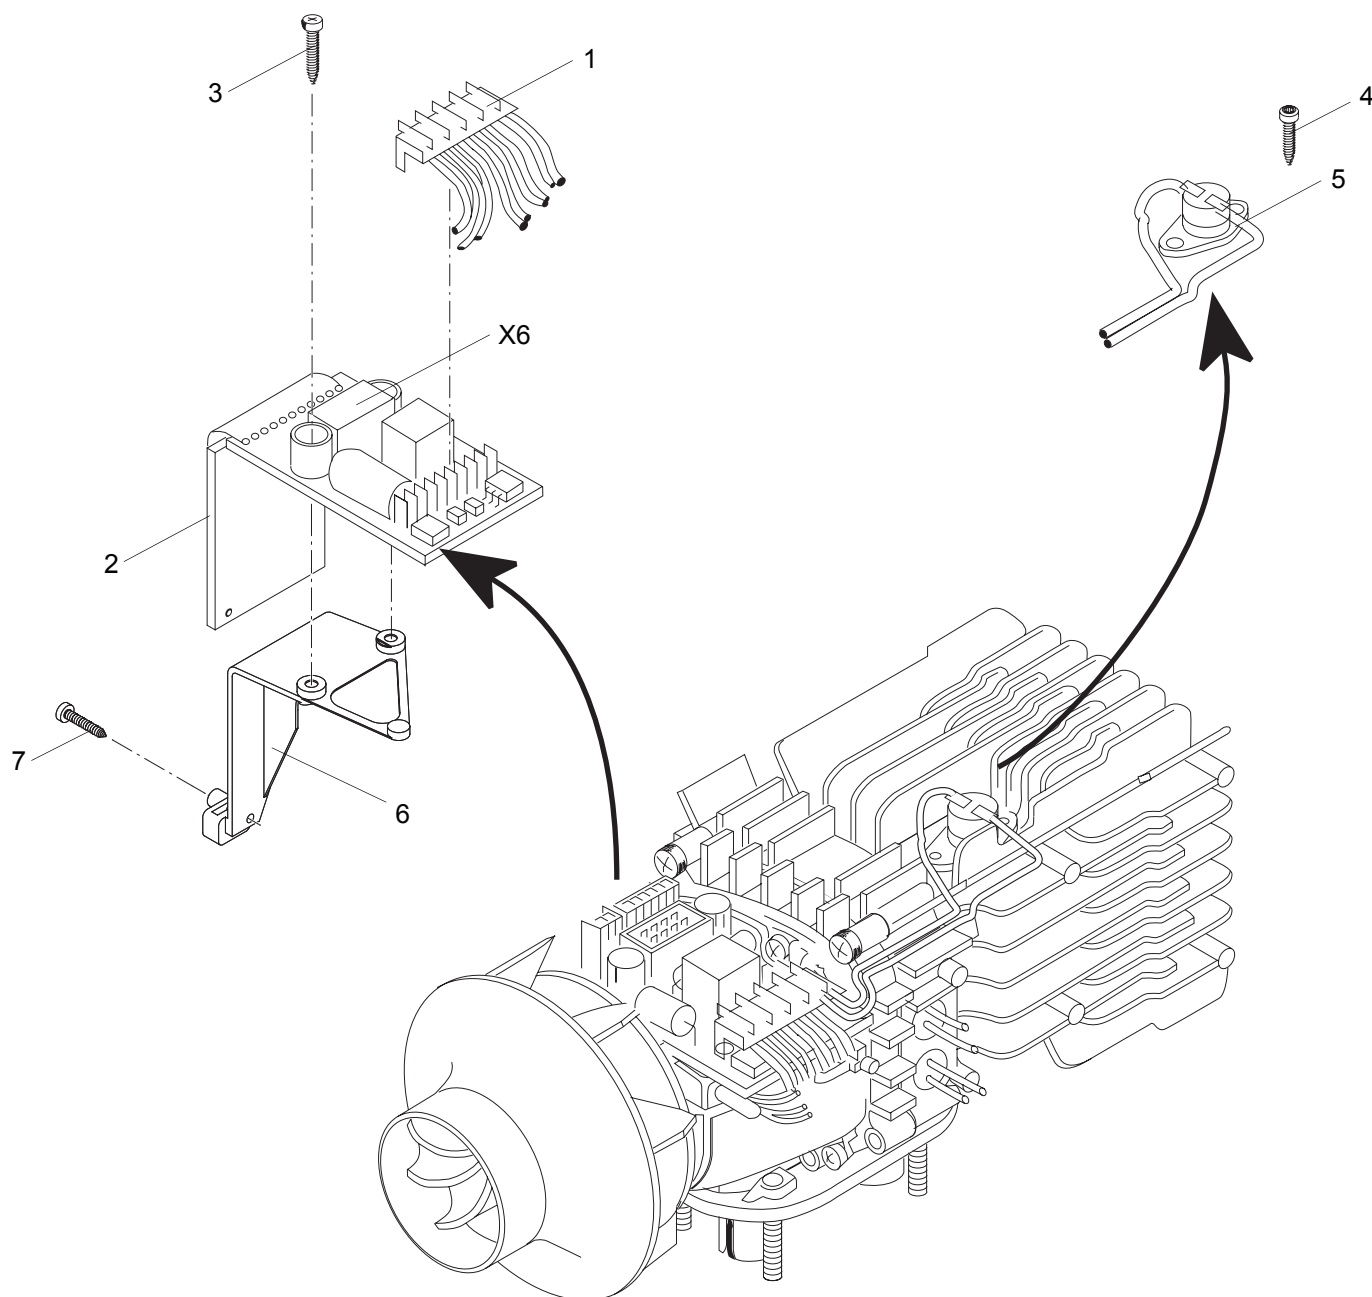

Fig. 902 Replacement of Control Unit and Temperature Limiter
4. Disconnect terminal connections (1, Fig. 902).
5. Remove screws (3) and remove control unit (2) with bracket (6).
6. Remove screw (7) to separate control unit (2) from bracket (6) if necessary.
1. Place control unit (2, Fig. 902) in position on bracket (6) and secure with screw (7).
2. Place control unit (2) with bracket (6) in installation position and secure with screws (3).
5. Remove screws (4, Fig. 902).
6. Remove temperature limiter (5).
1. Place temperature limiter (5, Fig. 902) into installation position and secure with screws (4).